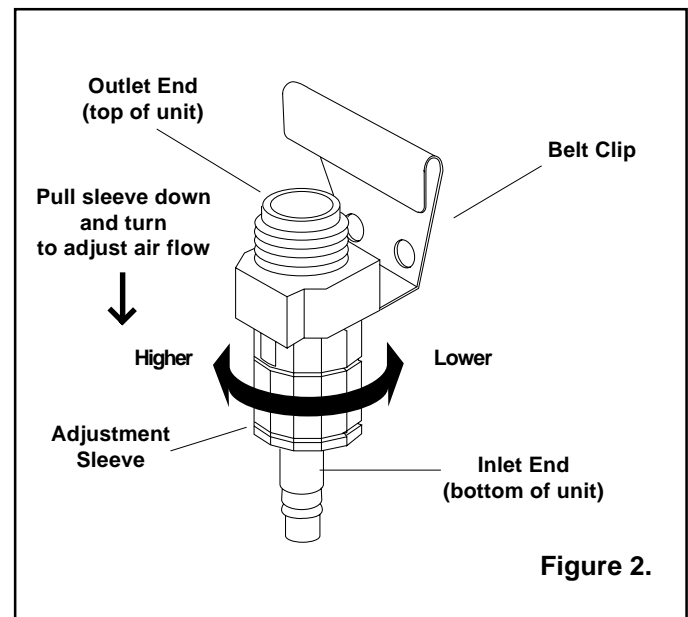

Figure 2.
6.1 Air Control Valve, alternate, Figure 2